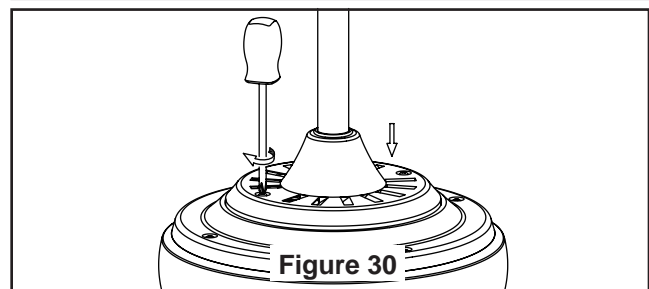

Figure 30
3. Tight the two screws from the motor coupling cover. (Figure 30)